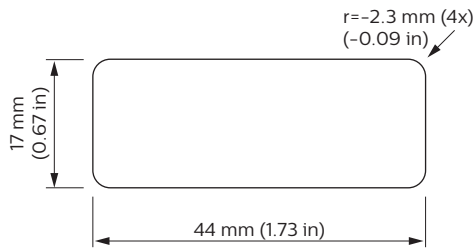

Figure 2: Cutout (punch) pattern when using with cover LCA8006
- directly inside the luminaire housing whereby a hole needs to be cut (punched) according to figure 2.